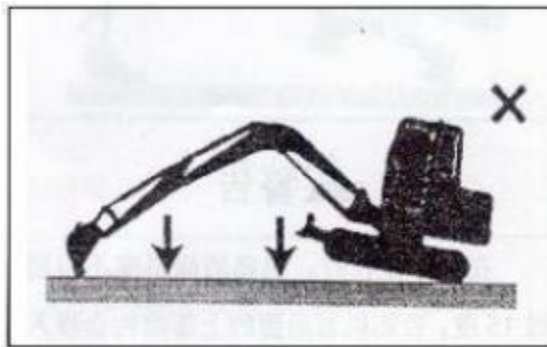

Fig 3-37
14. Do not perform excavation when the crawler tracks are off the ground, otherwise the machine and structural parts may be damaged. See Figure 3-37